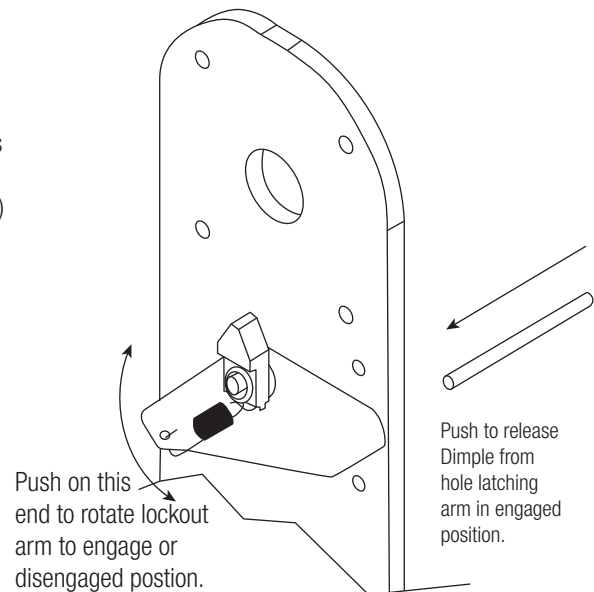

Figure 3-9
3.5.1.1 Operation with Ratchet: The ratchet pawl is spring loaded. It is designed to function in all acceptable mounting configurations. A slight pull on cable will disengage the ratchet. (See Figure 3-9)